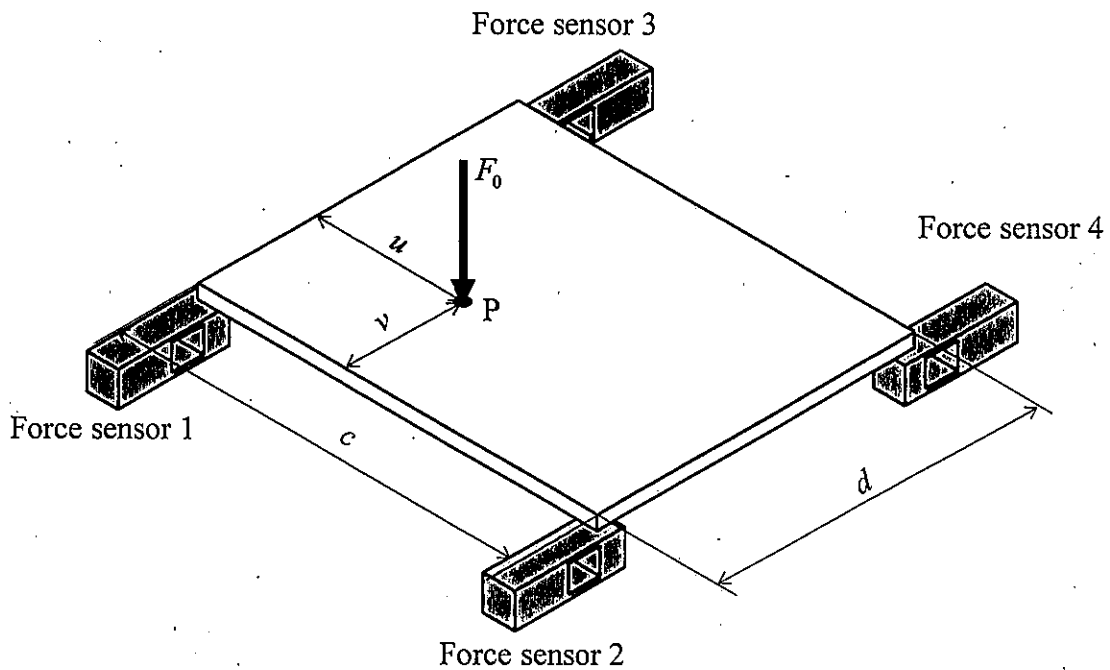

Figure 3-4
- (7) Consider a touch panel using four force sensors as shown in Figure 3-4. The output of the force sensors 1, 2, 3 and 4 are  $F_1$ ,  $F_2$ ,  $F_3$  and  $F_4$ , respectively, when a force  $F_0$  perpendicular to the panel is applied to a point  $P(u, v)$  on the panel. Express the force  $F_0$  and its position  $(u, v)$  using  $F_1$ ,  $F_2$ ,  $F_3$ ,  $F_4$ ,  $c$  and  $d$ .